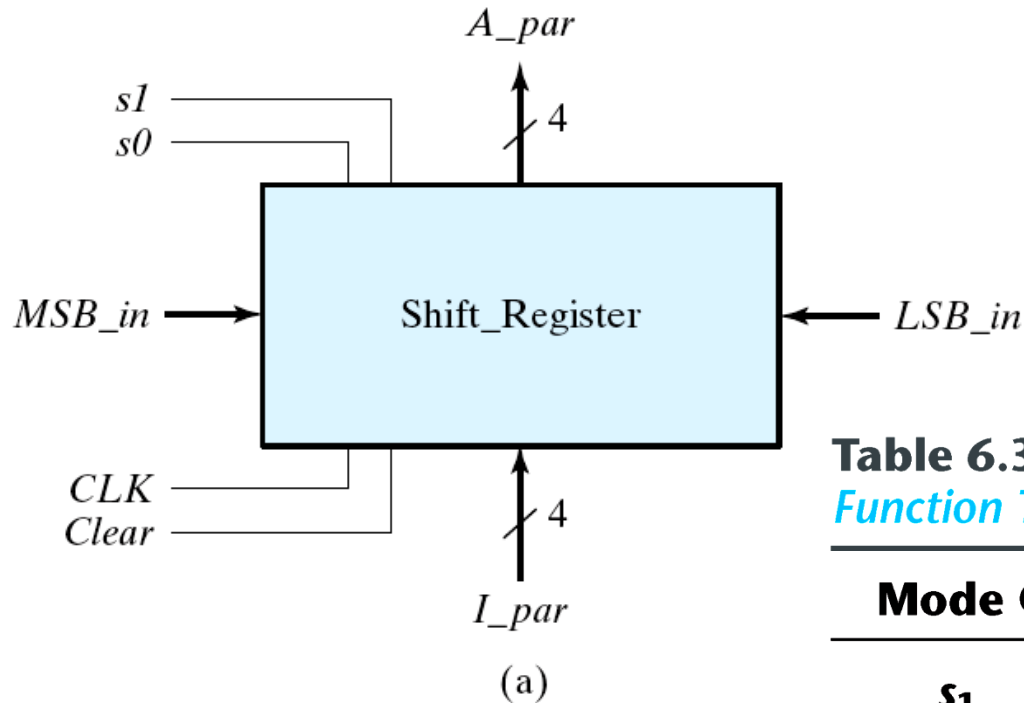

Fig. 6.7
*Function Table for the Register of Fig. 6.7*
// Fig. 6.7 and Table 6.3